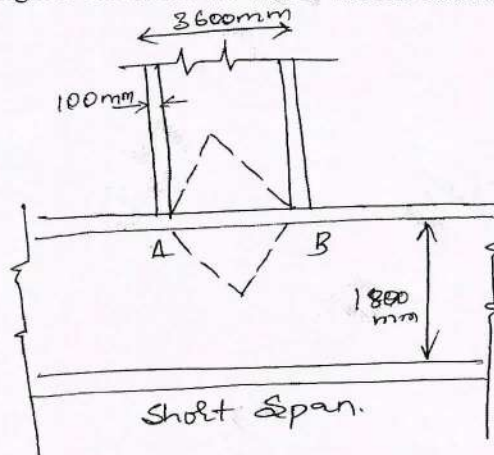

Fig.Q7
- 7 Design an interior cross wall AB of a storeyed building, supporting unequal concrete roof slab. The plan is shown in Fig.Q7. Assume triangular bearing pressure and loading as 10 kN/m^2 . The storey height is 3.8 m and the wall is fixed to foundation block below.